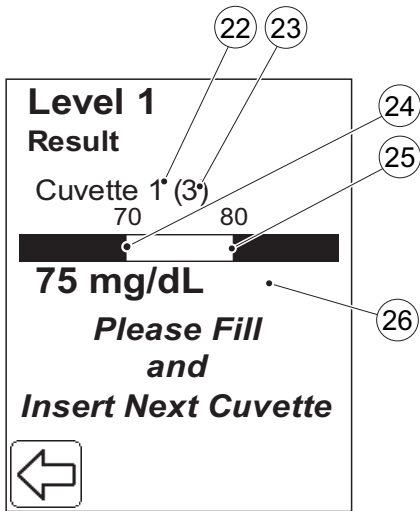

FIGURE 6-23
- r) Place the Cuvette in the Cuvette holder and gently insert it into the measuring position. *FIGURE 6-23* will be displayed.
If *FIGURE 6-23* is displayed and the test is to be continued:
If additional tests are required *FIGURE 6-23* will be displayed again.